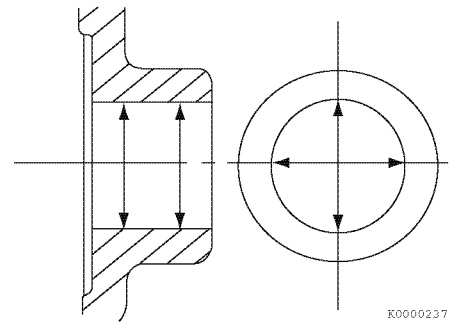

Figure 6-67
6. Measure the diameter of the wrist pin bore on both sides of the piston (**Figure 6-67**). See *Piston* on page 6-9 for specifications. Record the measurements.